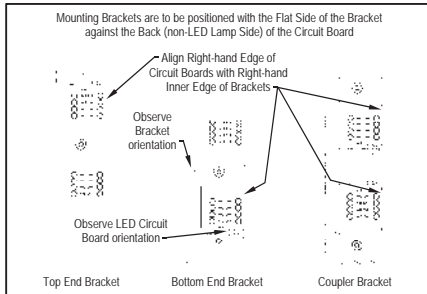

Figure 4. Orientation of LED Circuit Boards and Mounting Brackets Prior to Assembly
IMPORTANT: IT IS CRITICAL TO THE PROPER REFRACTION OF THE LIGHT EMITTED BY THE ILLUMINATOR THAT THE LED CIRCUIT BOARD(S) AND MOUNTING BRACKETS ARE ASSEMBLED TOGETHER EXACTLY AS SHOWN IN FIGURE 4 ABOVE.
Place the LED Circuit Board (Item 18) on a flat horizontal surface and orient the Board with LED Lamps facing outward and the Printed Arrows on the Board pointing upward. Beneath the Bottom End of the LED Board, position the Bottom End Mounting Bracket (Item 12) with Engraved Arrow pointing upward and the Flat Side of the Mounting Bracket against the Back (Non-Lamp) Side of the LED Board. Align the Upper Threaded Hole of the Mounting Bracket with Slot in the LED Board as shown in Figure 4. Place Lock Washer (Item 21) on Machine Screw (Item 22), install thru the LED Board Slot and thread into the Upper Threaded Hole in the Mounting Bracket; do not yet fully tighten. Repeat this process for the Top End of the LED Circuit Board and the Top End Mounting Bracket. NOTE: The Top and Bottom Mounting Brackets (Items 12) are identical however the Top End of the LED Board is fastened to the Lower Threaded Hole of the Top End Mounting Bracket as shown in Figure 4. With both Brackets attached, align the Right-hand Edge of the LED Board with the Inner Right-hand Edges of the Mounting Brackets and fully tighten the Machine Screws.
1. Place the LED Circuit Boards (Items 18) on a flat horizontal surface. Position the LED Boards in a "String" in the order in which they are to be attached to each other. NOTE: When connecting LED Boards having unequal overall lengths, their relative positioning has no effect on the Illuminator function. However, it is recommended that the Longer LED Boards be positioned at the Bottom of the Board String such that when installed, they will be nearest to the Bottom of the Assembled Illuminator. Orient the Boards with LED Lamps facing outward and the Printed Arrows on the Boards pointing upward. Beneath the Bottom End of the Lowest LED Board in the String, position the Bottom End Mounting Bracket (Item 12) with Engraved Arrow pointing upward and the Flat Side of the Mounting Bracket against the Back (Non-Lamp) Side of the LED Board. Align the Upper Threaded Hole of the Mounting Bracket with Slot in the LED Board as shown in Figure 4. Place Lock Washer (Item 21) on Machine Screw (Item 22), install thru the LED Board Slot and thread into the Upper Threaded Hole in the Bottom Mounting Bracket; do not yet fully tighten. Repeat this process for the Top End of the Uppermost LED Board in the String and the Top End Mounting Bracket. NOTE: The Top and Bottom Mounting Brackets are identical however the Uppermost LED Board is fastened to the Lower Threaded Hole of the Top End Mounting Bracket as shown in Figure 4.
B. Install Electrical Primary Cable: From the exterior of the Illuminator Housing (Item 1), insert the SMALL FEMALE CONNECTOR END of the Primary Electrical Cable (Item 9) thru the previously installed Tube Adapter Fitting (Item 15A1). Gently pull the Cable through the Tube Adapter and into the Interior of the Illuminator Housing until about 3' of Cable (including the length of the Male End Connector) remains exposed from the End of the Tube Adapter. Where the Cable enters the Interior of the Illuminator Housing (just beyond the Hex Pipe Nut (10)), make a small bend in the Cable then route the Cable along the Inside of the Illuminator Housing Wall Channel and to the Bottom End and out of the Illuminator Housing.
7. Fasten Lower End Cap to Illuminator Housing – Apply lubricant to the four (4) Cap Screws (Items 8) according to DISASSEMBLY/PARTS REPLACEMENT/REASSEMBLY – Important Disassembly/Reassembly Notes Section in this Manual: set Cap Screws aside for later use.